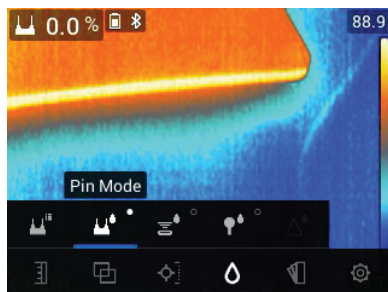

Figure 7.10 Pin mode menu selection
1. Select the Pin mode from the menu (*Moisture mode/Pin Mode*); see **Figure 7-10** above.